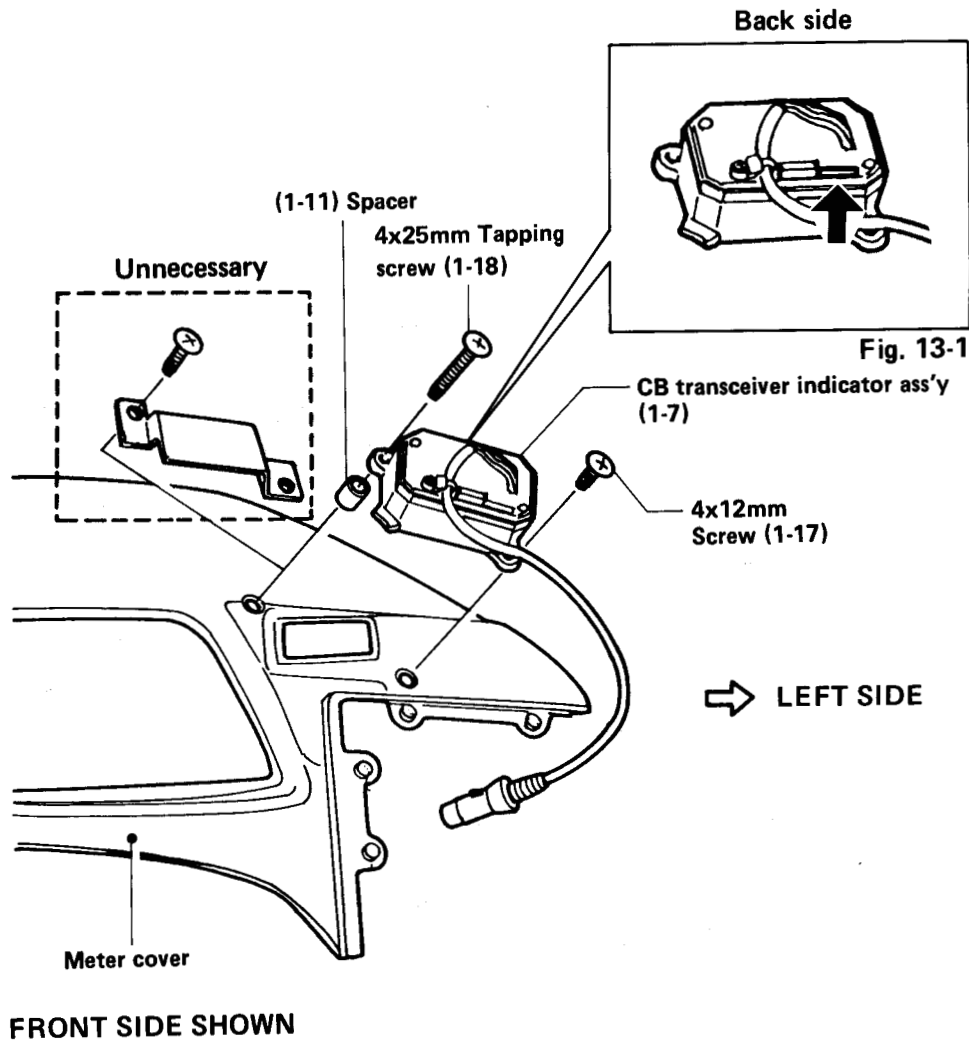

Fig. 13
- 2) Mount the CB transceiver indicator ass'y (1-7) on the meter panel as shown in Fig. 13.